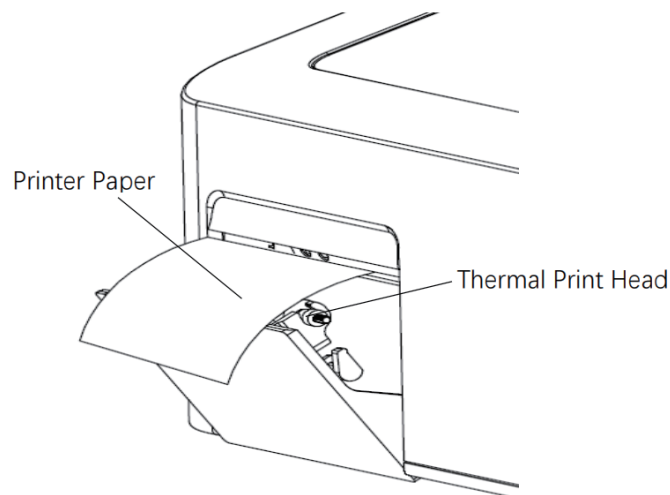

Figure 3-1 Installing printer paper
- 2) Place the new paper in the paper slot with the outer surface of the paper facing upwards towards the thermal print head. (Figure 3-1)